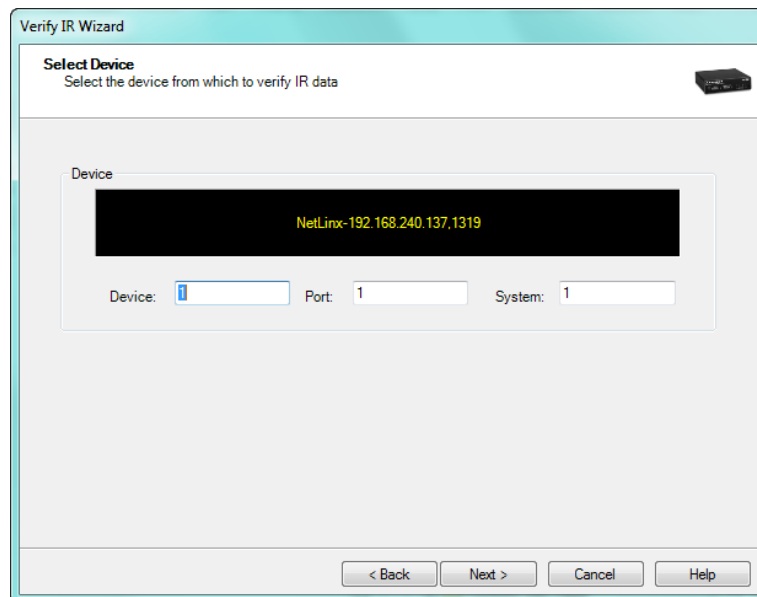

FIG. 60 Verify IR Wizard - Select Device dialog
2. Select **Next** to proceed to the *Select Device* dialog (FIG. 60):